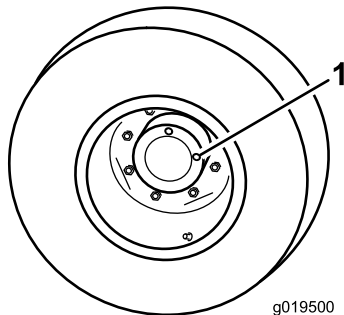

Figure 41
1. With the machine on level surface, position the wheel so that one check plug (Figure 41) is at the 12 o'clock position and the other is at the 3 o'clock position.
1. Check/drain plug (2)
2. Remove the plug at the 3 o'clock position (Figure 41).